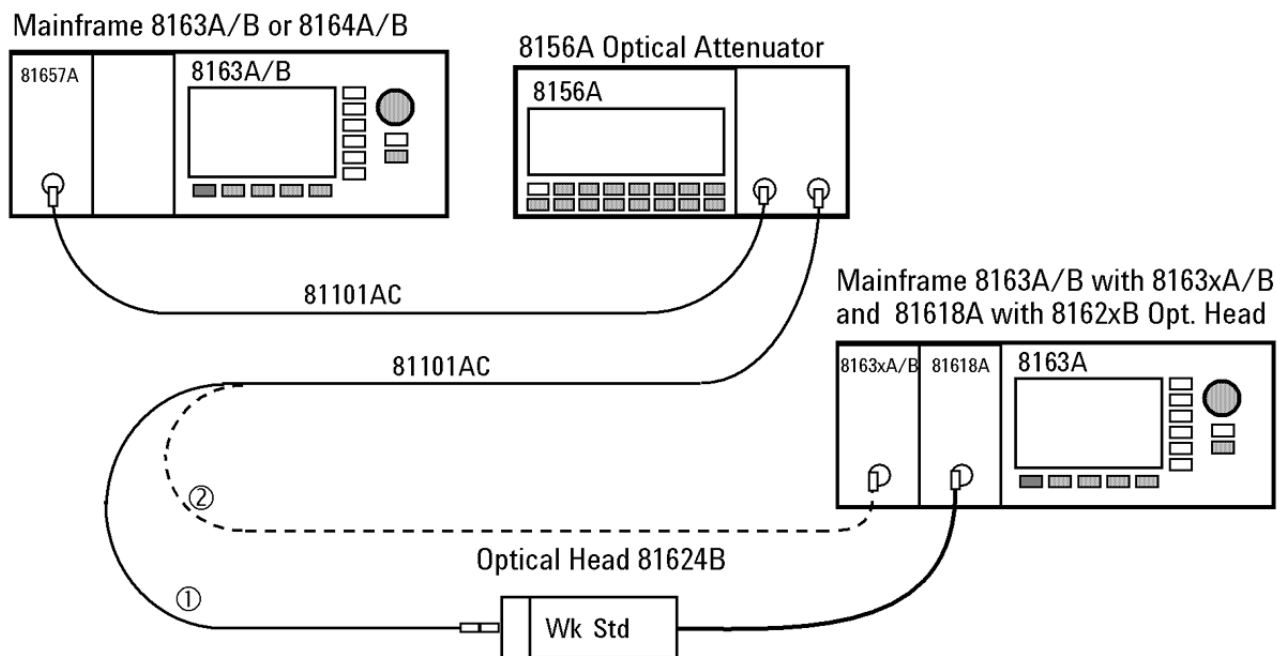

Figure 4 Accuracy Test Setup
- 2 Connect the equipment as shown in Figure 4. Ensure that the cables to and from the attenuator are fixed on the table and that both the optical head and the DUT are close together so that minimum cable movement is required when connecting the cable to the head or to the DUT.